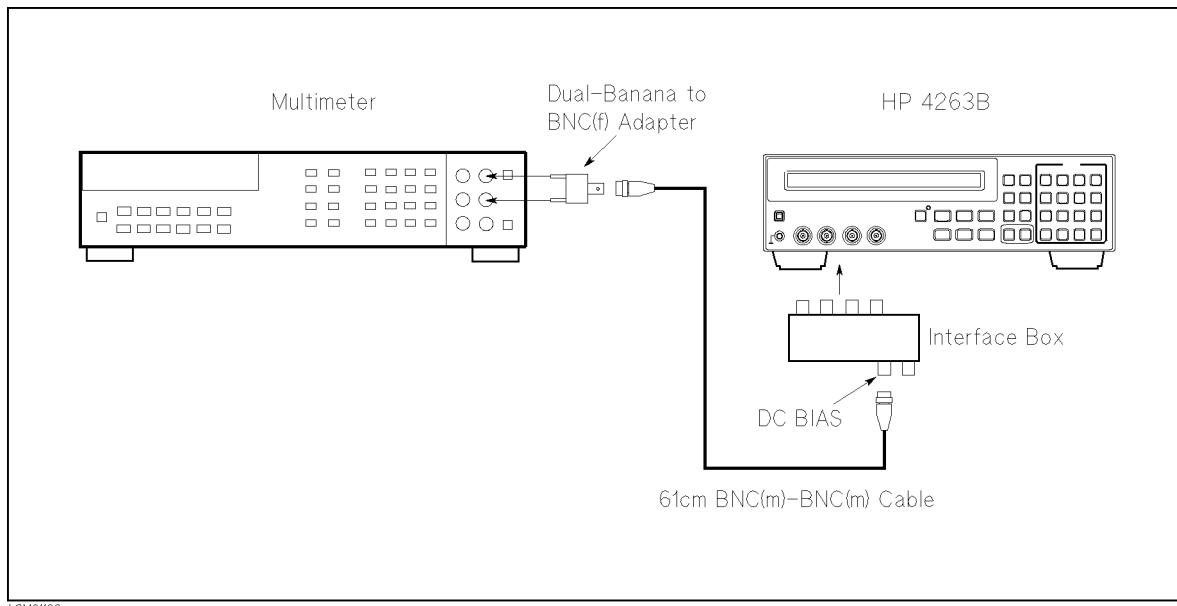
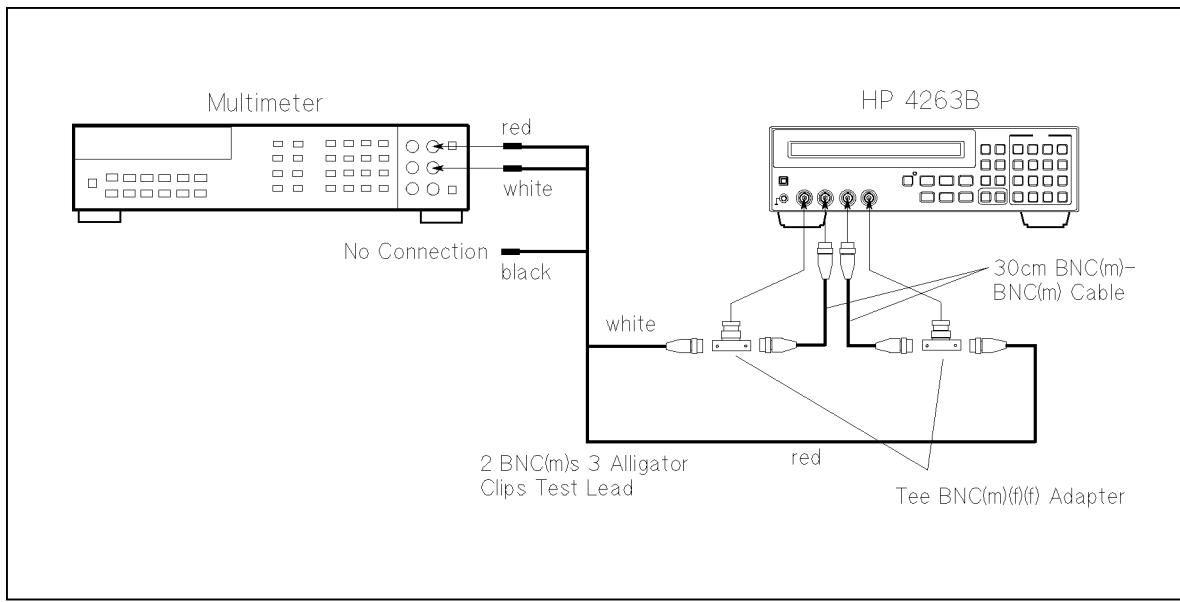

Figure 9-3. DC Bias Level Accuracy Test Setup
Figure 9-4. DC Bias Level Accuracy Test Setup Without The Interface Box
2. Set up the equipment as shown in Figure 9-3. If the Interface Box (p/n 04284-65007) is not available, use the following cables and adapters as a substitute and setup the equipment as shown in Figure 9-4.